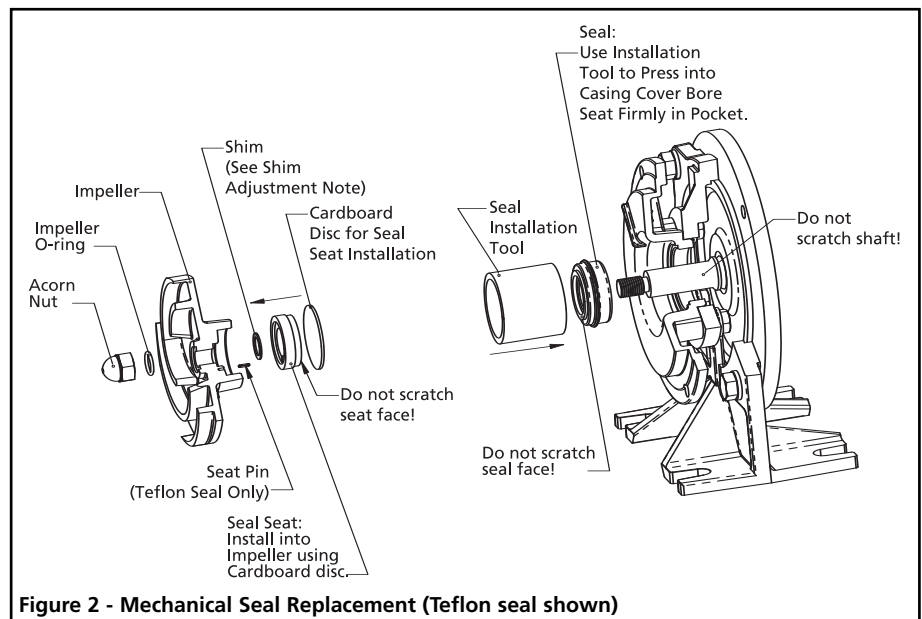

Figure 2 - Mechanical Seal Replacement (Teflon seal shown)
Refer to Figures 2, 3 and 4.
8. Apply a light coat of sealing compound to new seal cartridge (See Figure 2) and press it into the casing housing cover recess (Ref. No. 6) using the proper size tube or installation tool (See Figure 3). **DO NOT** press on carbon face or top of metal cup of the seal cartridge. Install using flange only.
10. Press new seal seat (Ref. No. 11) squarely into the impeller recess (Ref. No. 13). Align slot in the seal seat with seal seat pin on Teflon-equipped units. Avoid scratching the ceramic surface. Use the cardboard washer (usually supplied with new seal) to place over the polished ceramic surface and use a piece of pipe or dowel rod to press in firmly but gently (See figure 2). Avoid scratching the ceramic face, usually white.